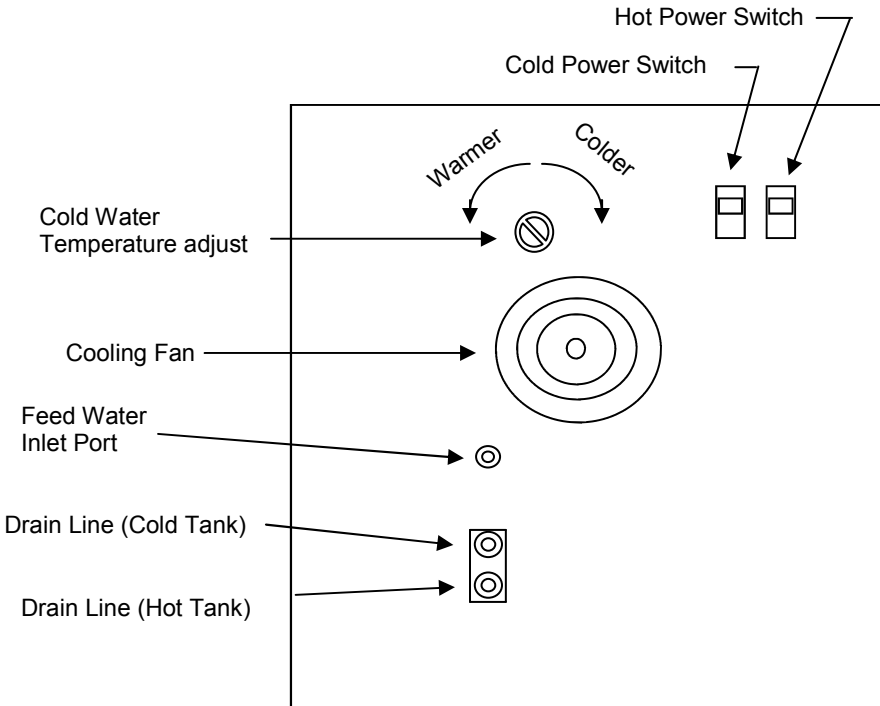

Figure 3 Back View of Cooler
- k. The temperature of cold water is set at the factory. Using a flat screw driver, the temperature can be adjusted, if needed, by turning the temperature control slot Clockwise for colder and Counterclockwise for warmer (See Figure 3).